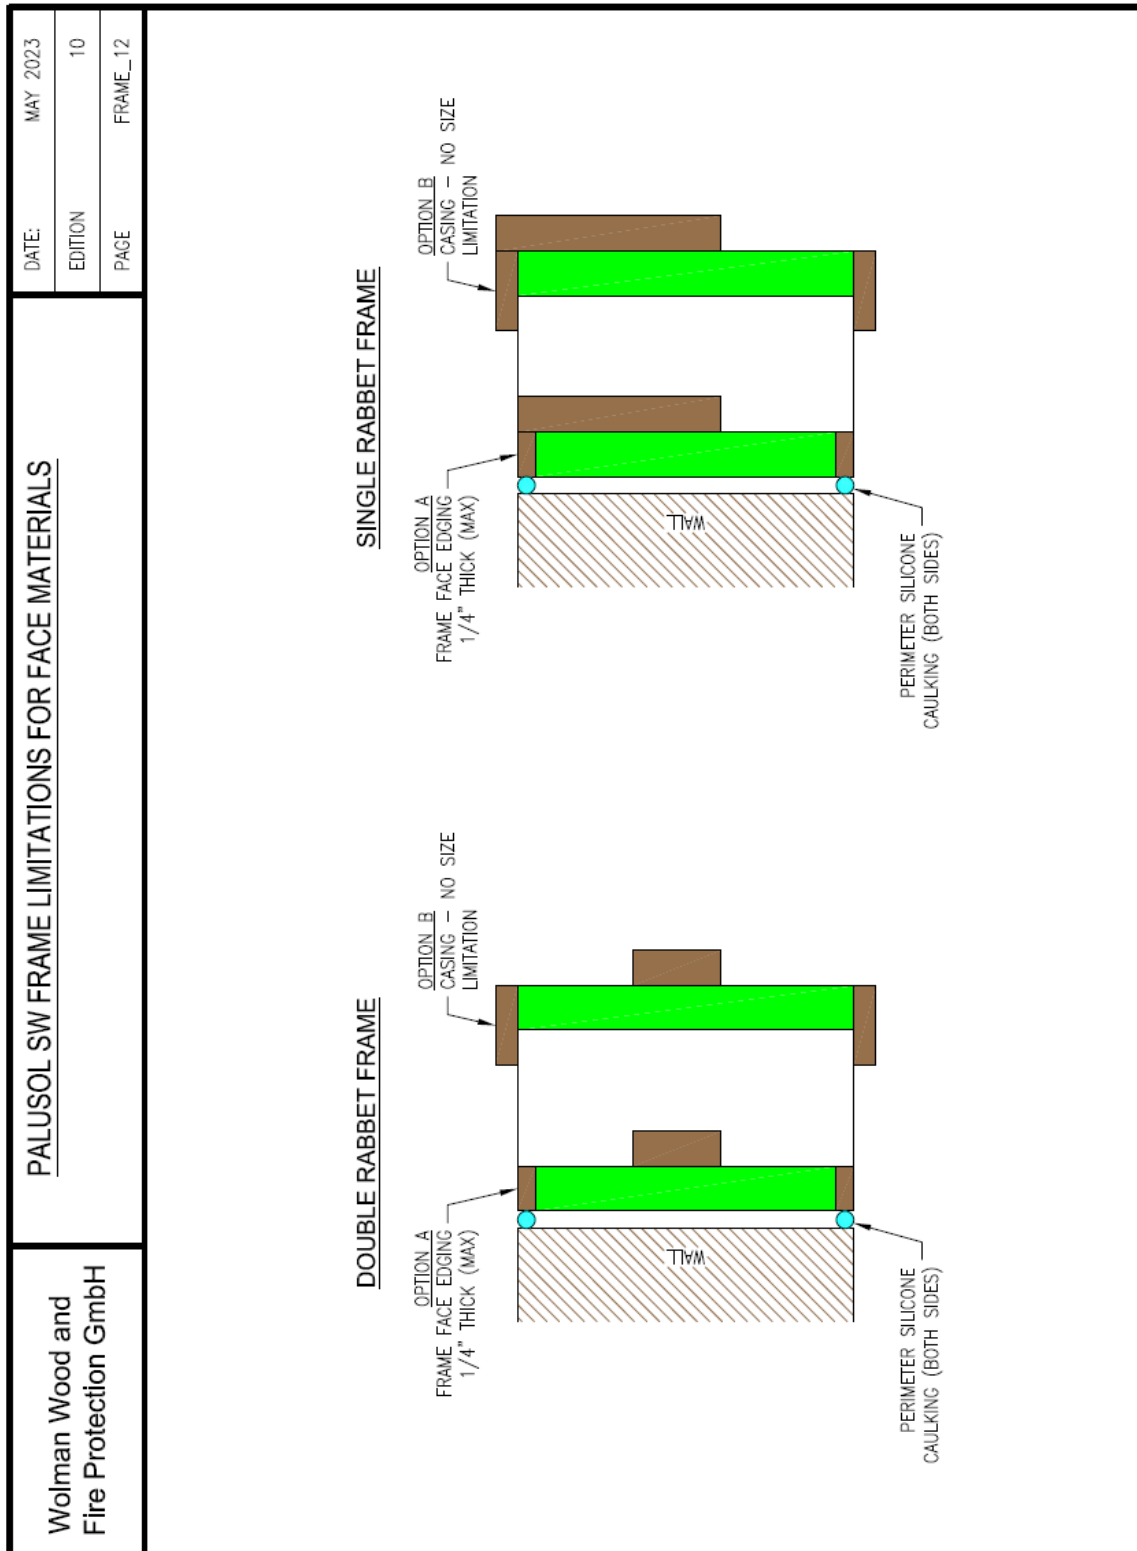

Figure 5: Frame facing options.
- Multiple layers of SW 45-1 or SW 60-1 (Figure 5).